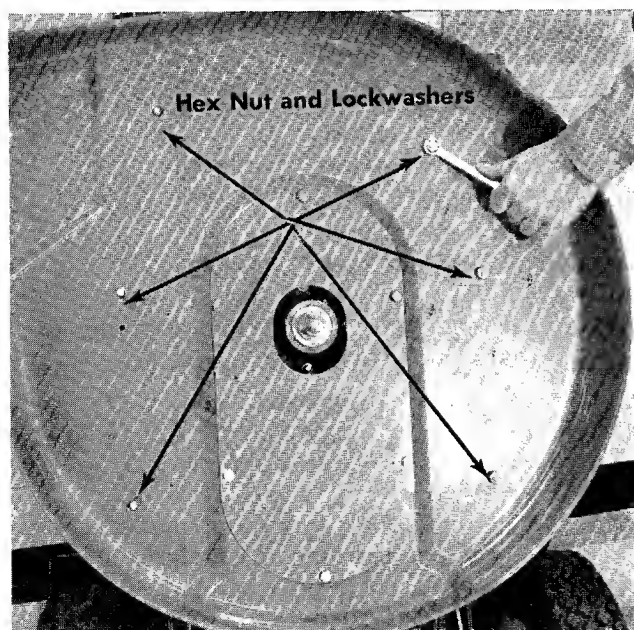

FIGURE 23. REMOVING THE DECK
Step 3. Take off the deck by removing the six hex nuts and lockwashers as shown in figure 23.